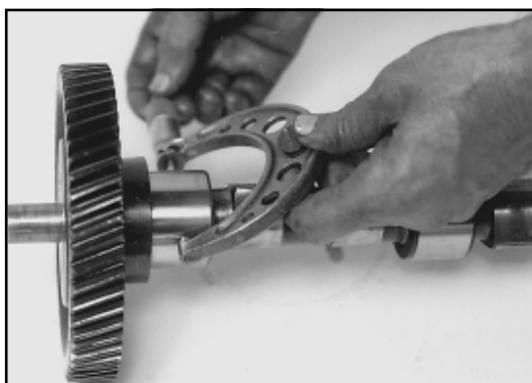

Fig.9-23
- Check journal diameters with a micrometer Fig.9-23. If journals are worn replace the camshaft with gear.